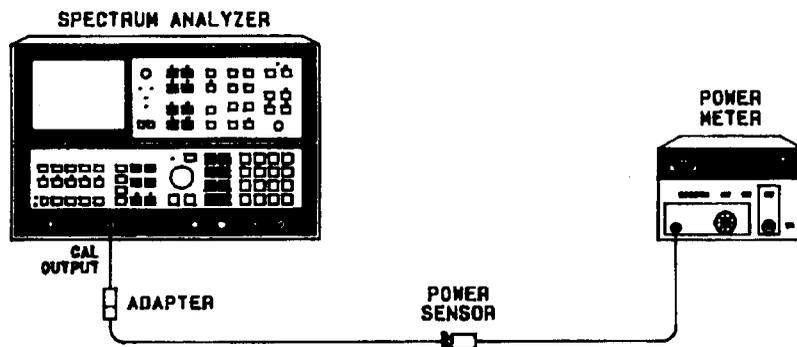

Figure 2-32. Calibrator Amplitude Accuracy **Test** Setup
1. Connect equipment as shown in Figure 2-32.